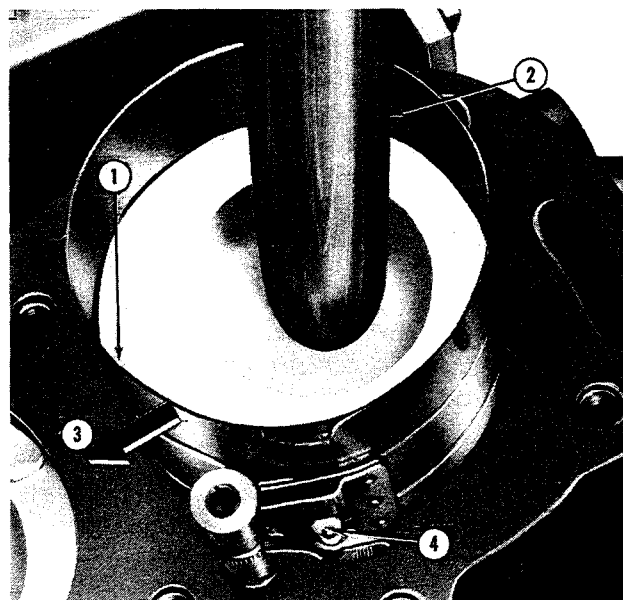

Figure 57
2. Liberally lubricate the No. 1 piston with engine oil. Compress the rings with a Piston Ring Compressor as shown in Figure 57. Install the bearing liner in the connecting rod.
4. Tap the piston into the cylinder bore with the handle end of a hammer, Figure 57, until the connecting rod bearing liner is seated on the crankpin. Be careful not to damage the cylinder wall or the bearing journal with the connecting rod or rod bolts.